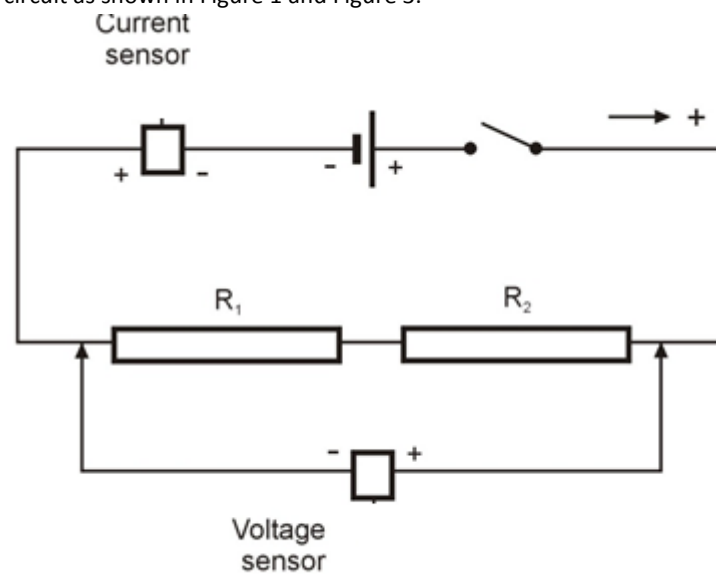

Figure 3
6. Assemble the circuit as shown in Figure 1 and Figure 3.